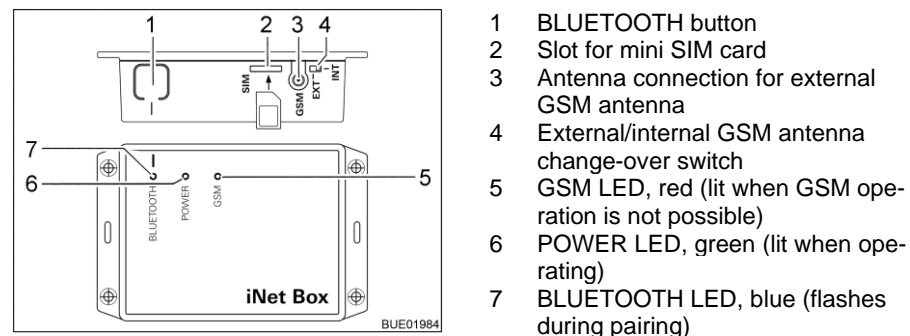

Fig. 189 Truma iNet-Box
- Press the BLUETOOTH button (Fig. 189,1) on the iNet-Box for 1 second. The Truma iNet-Box will be visible in the mobile terminal for approx. 2 minutes (name: "Truma iNet-Box"). During this period, the blue BLUETOOTH LED (Fig. 189,7) will be flashing.
- Carefully insert the mini SIM card with own telephone number and sufficient credit into the slot (Fig. 189,2) of the Truma iNet-Box as shown until it engages. The red GSM LED (Fig. 189,5) must be flashing continuously. If the red LED goes out after 20 seconds: Check mini SIM card.